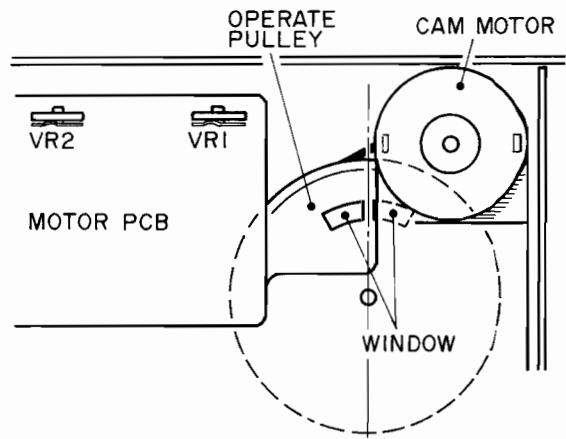

Fig. 8-2 Position of Operate Pulley in STOP Mode
b. Adjust VR1 slightly so that a center line between windows of the operate pulley will face directly above during STOP Mode. (Fig. 8-2)